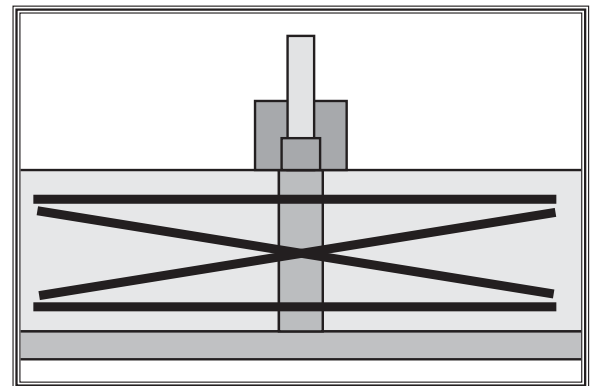

Figure 47. Straightedge positions for checking infeed/outfeed parallelism.
4. Place the straightedge in the positions shown in **Figure 47**. In each position, the straightedge should sit flat against both the outfeed table and the infeed table.
7. Place the straightedge in one of the positions shown in **Figure 47**, and adjust the eccentric bushings under the infeed table so the straightedge lies flat against both tables. Repeat this step with each of the remaining straightedge positions as many times as necessary until the infeed table is parallel with the outfeed table.